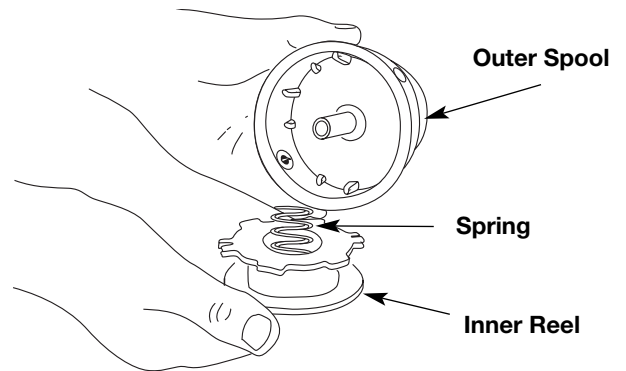

Fig. 16
2. Remove the inner reel from the outer spool (Fig. 16).
3. Remove spring from the inner reel (Fig. 16).
2. Remove the old inner reel from the outer spool (Fig. 16).
3. Remove the spring from the old inner reel (Fig. 16).